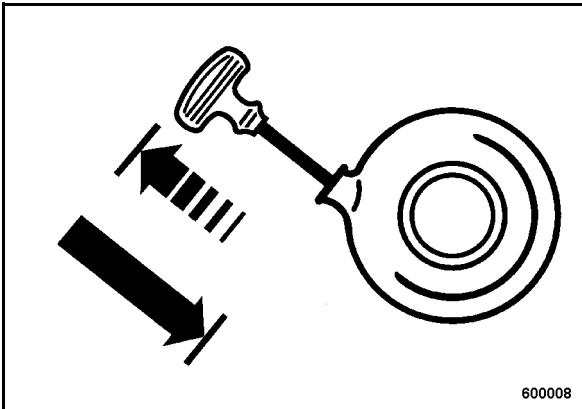

Fig. 13
- Slightly pull the starter handle (Fig. 13), until resistance can be felt (compression pressure), but do not pull out completely.